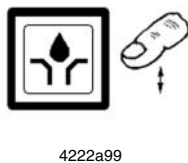

Fig. 30 Pushbutton for additional lubrication cycle
- ➔ is triggered via the button (Fig. 30). Press the button for 2 seconds.